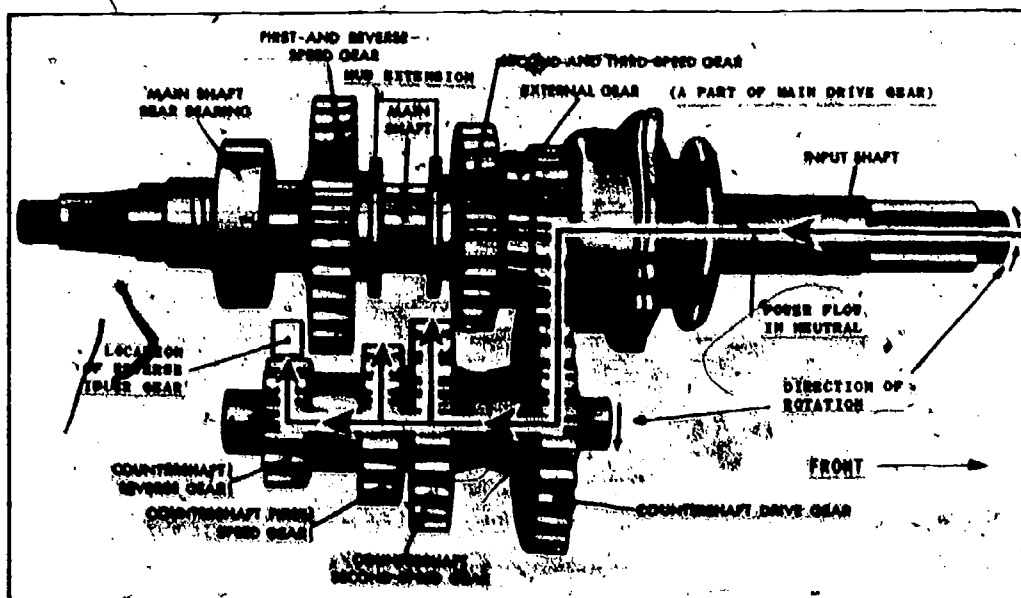

Fig 3-21. Sliding-spur-gear transmission.
- (1) Sliding-spur-gear (fig. 3-21). This is a simple sliding gear transmission. It is the type used in some crawler tractors, similar gear trains of cranes, and for some transfer cases. The component parts can be enclosed in a case or they can be exposed. An exposed gear system is referred to as "the gear train."
- (a) Components. The transmission (fig 3-21) consists of four shafts, seven gears (reverse idler gear not shown), bearings, seals, linkage, and the case.
2. The main drive gear external gear (fig 3-21) is keyed to, pressed to, or constructed as part of the input shaft. It is two gears constructed in one piece. It has external teeth that mesh with the countershaft drive gear and another set of teeth that will mesh with a gear on the main shaft. The teeth that mesh with the main shaft gear can be either internal or external. The main drive gear is also machined to receive a bearing and on some machines splines smaller than the inside diameter of the bearing are cut. The splined portion provides a method of driving an attachment power-takeoff (PTO) shaft.
- (b) Function. Power from the clutch turns the input shaft and gears. The countershaft drive gear, being in mesh with the main drive gear, will also rotate, but in the opposite direction, causing the countershaft and countershaft gears to rotate. The reverse idler gear will rotate in the opposite direction of the countershaft reverse gear. The main shaft and gears will not rotate unless the power train is moved or the straight spur sliding gears are in proper mesh. If the second- and third-speed gear is moved forward and the internal gear and external gear mesh, the main shaft will rotate in the same direction as the input shaft. If the gear is moved to the rear and in mesh with the countershaft second-speed gear, it will rotate in the same direction as the input shaft, but at a reduced speed because of the different gear ratio. When the first and reverse gear is in mesh with the reverse idler gear, the main shaft will turn in the opposite direction of the input shaft. Study figure 3-21 and note the size of the gears. Trace the power flow through the gears and visualize the gear reductions. Remember that when a large gear is driving a smaller gear there will be an increase in speed and that direction of rotation will change when transmitted from one shaft to another shaft.